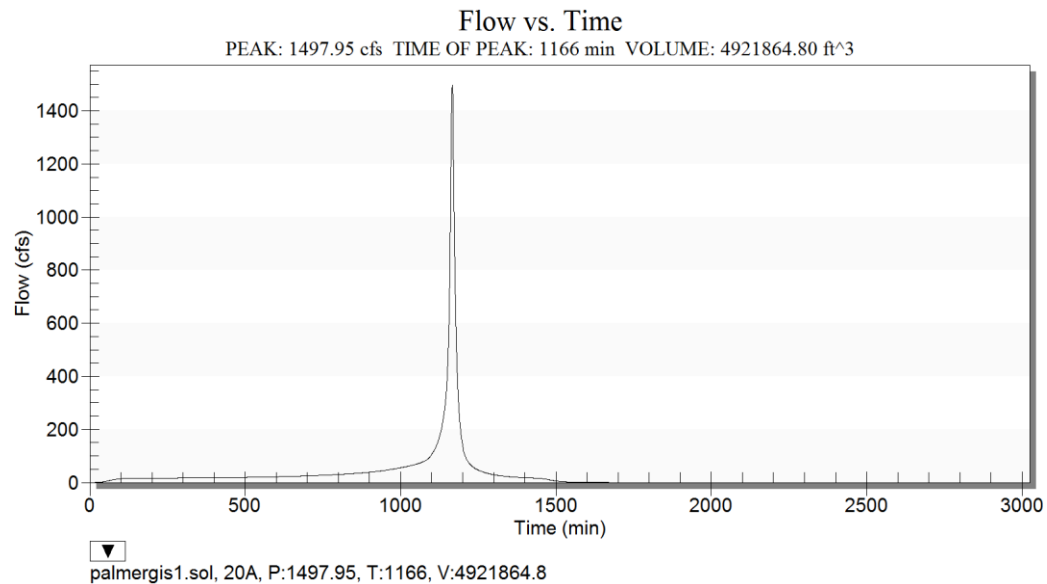

Figure 8-1: Solution hydrograph for MODRAT simulation
11. Review the hydrograph plot that appears in a new plot window. It should look similar to Figure 8-1.